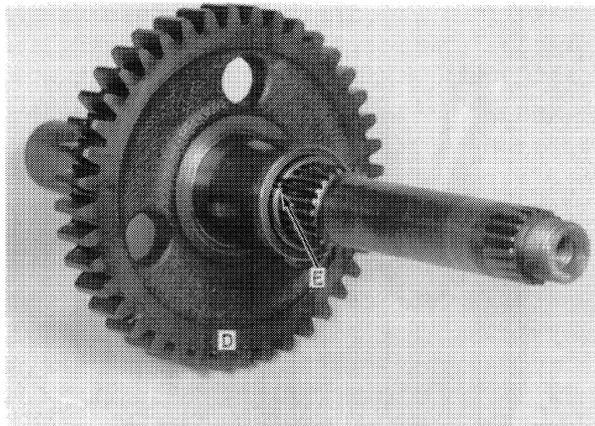

FIGURE 2-18
2. Remove snap ring, B, Figure 2-17, and press gear, D, Figure 2-18, far enough that retaining ring, E, Figure 2-18, can be removed. Remove the gear and then press bearing, C, Figure 2-17, off the shaft.